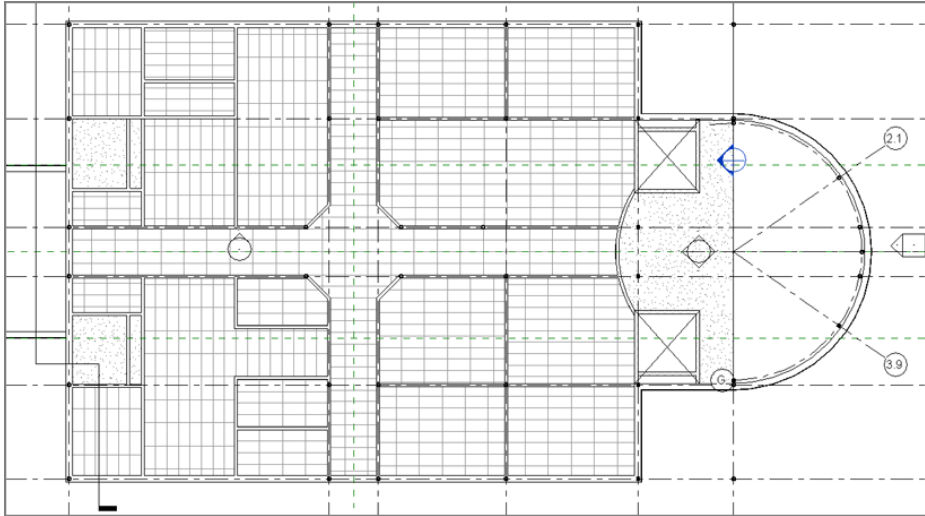

FIGURE 9.6: Adding 2×4 ACT ceilings to the specified rooms
6. Have at it! Add a ceiling to every room in the east wing except the bathrooms, east radial entry, and, of course, the elevator shafts, as shown in Figure 9.6.